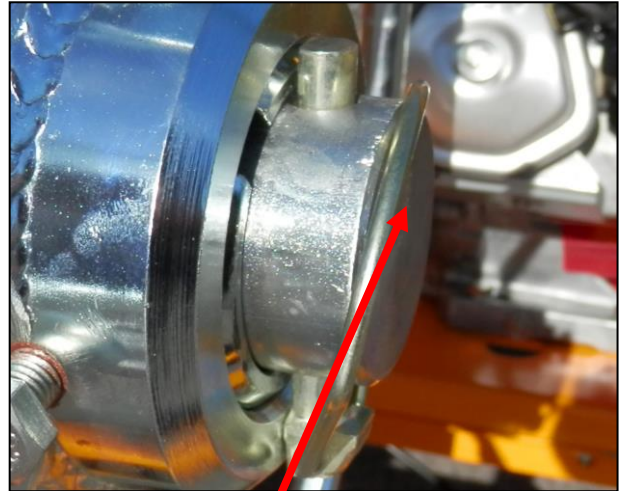

Fig 5.7b
- Always ensure that the rope take-up drum retaining lynch pin is correctly fitted to the drum shaft, (failure to do so may result in the rope take up drum not being completely secured), See Fig 5.7b